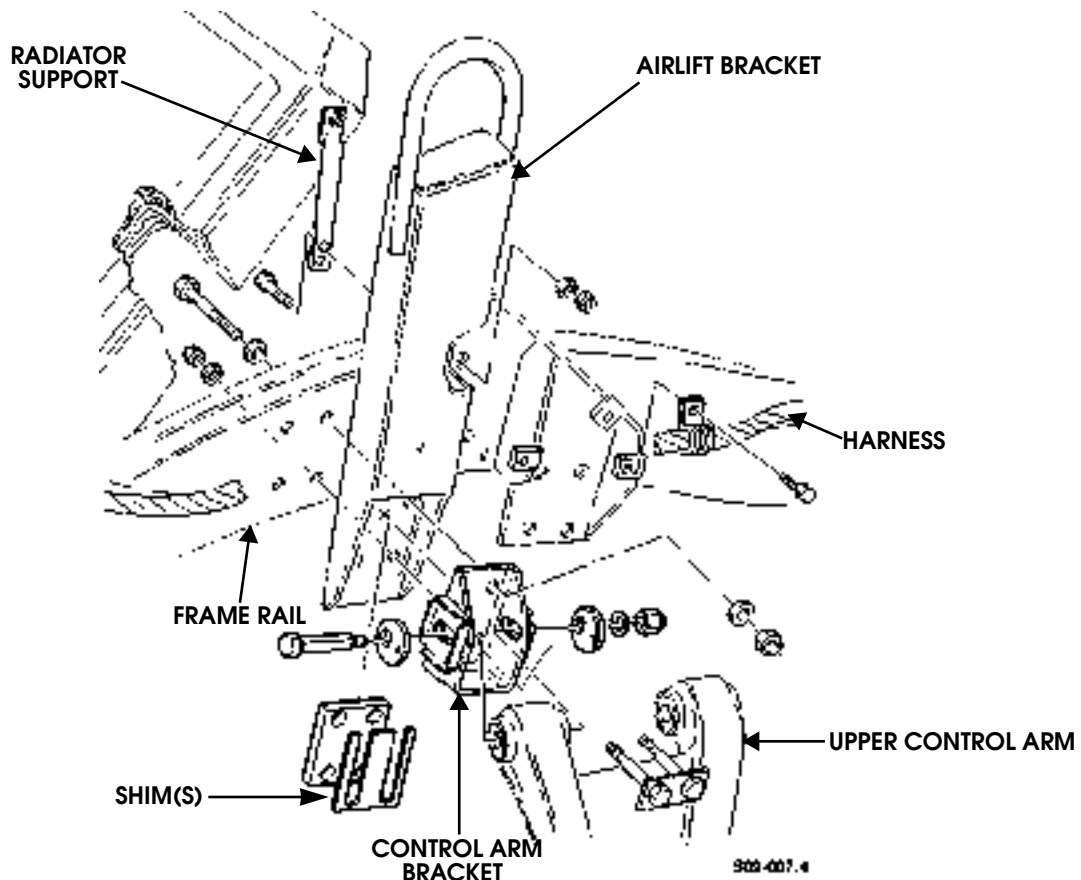

Figure 9-121: Left Airlift Bracket and Front Upper Control Arm Bracket Replacement
3. Remove three screws and clamps securing harness to airlift bracket (Figure 9-121).
1. Install airlift bracket, shim(s) and two control arm brackets on frame rail with eight washers, bolts, washers, and locknuts. Tighten locknuts to 90 lb-ft (122 N•m) (Figure 9-121).